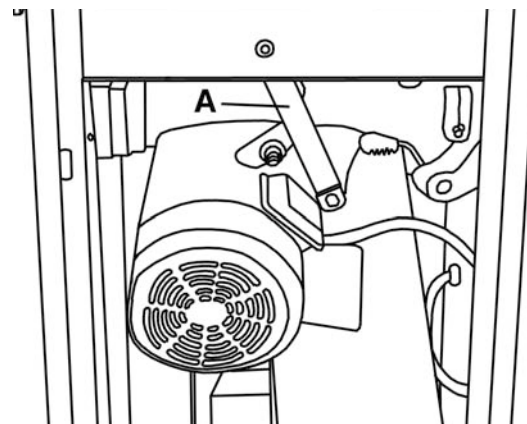

FIGURE 4
For shipping purposes, a motor bracket (A) Fig.4 is bolted to the cabinet and attached to the motor mount. This motor bracket must be removed before assembling, adjusting or operating this cabinet saw. You should keep this motor bracket in case you plan on shipping your cabinet saw.